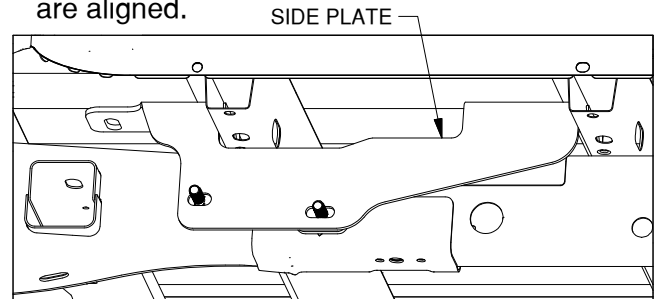
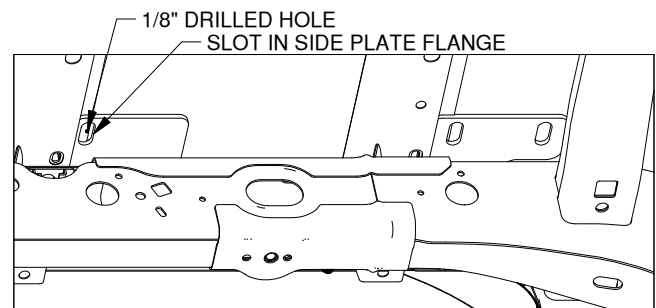

Figure D1: View of driver side wheel well.
Figure D2: View inside the driver side frame.
1. **Check hole locations.** Align each side plate to the side of the frame where the side plate will be installed, see Figure D1. Check that the 1/8" holes are centered within the slots in the side plate flanges, see Figure D2. If the 1/8" drilled holes are not centered re-drill the 1/8" holes until the side plates and the drilled holes are aligned.